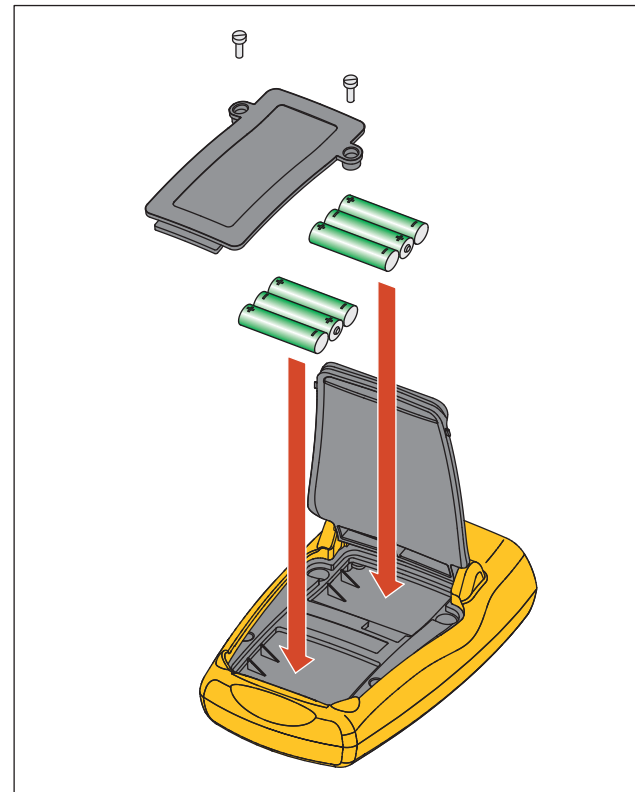

Figure 60. Battery Replacement
2. Lift bail to access the battery door. See Figure 60.